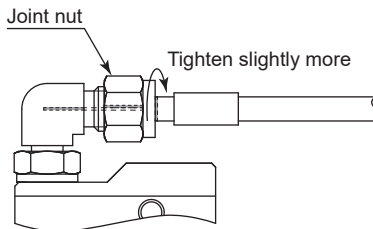

Fig. 17
- (3) Tighten the joint nut slightly more than before (by an amount equivalent to the thickness of the line). (Fig. 17)